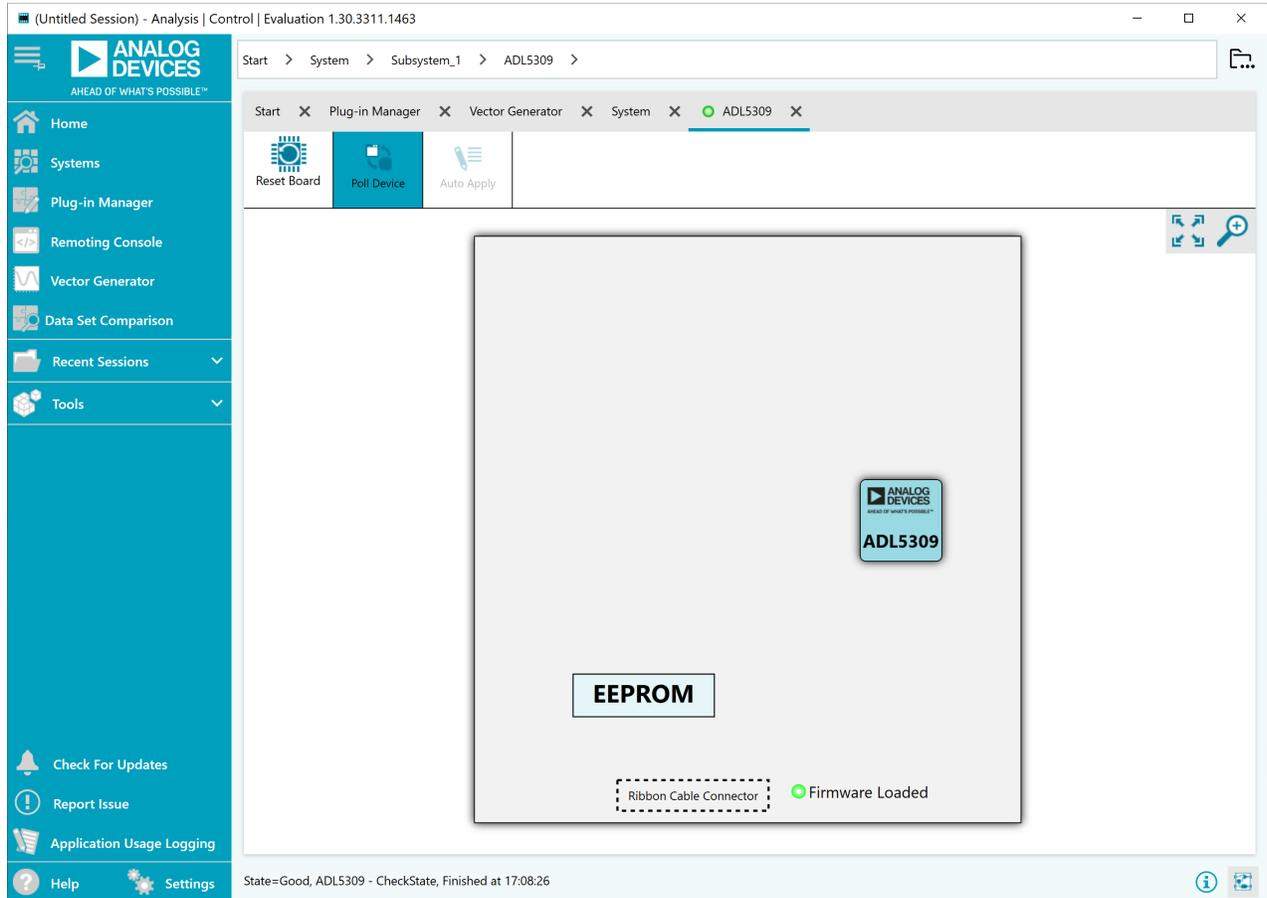

Figure 3. Plug-in Manager View with the Evaluation Board Connected to the ACE System
11. The ACE software shows that the ADL5309 plug-in is available in the **Attached Hardware**. Double-click the plug-in to add to the system. A successfully connected system with a properly loaded plug-in is shown in Figure 3.